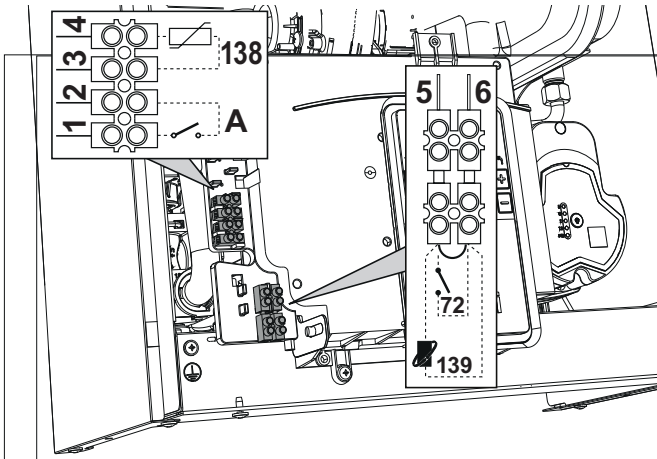
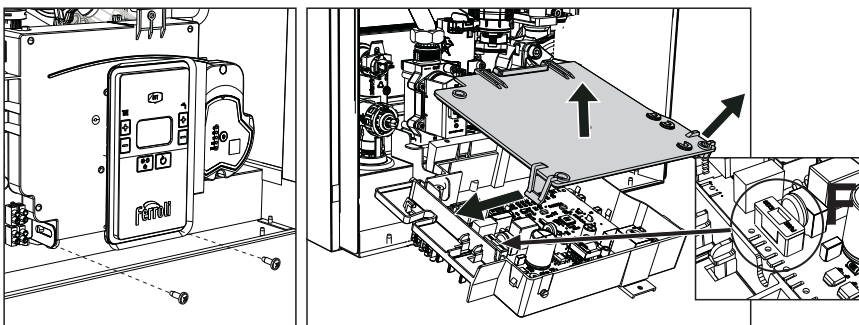

fig. 19
fig. 20
After removing the front panel (*** 'Opening the front panel' on page 284 ***) it is possible to access the terminal blocks (M) and the fuse (F) following the directions given below (fig. 19 and fig. 20). **The terminals indicated in fig. 20 must be with voltage-free contacts (not 230V).** The arrangement of the terminals for the various connections is also given in the wiring diagram in fig. 47.
ON/OFF (A fig. 20) configuration